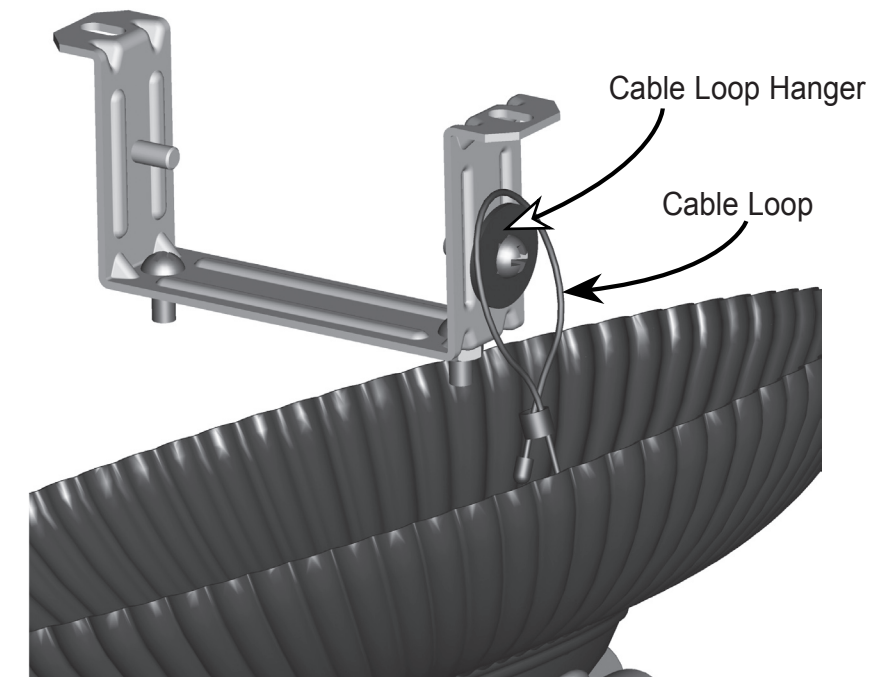

Figure 6 - Suspend the Fixture
- 3) Suspend the fixture by placing the Cable Loop over the Cable Loop Hanger. See Figure 6.